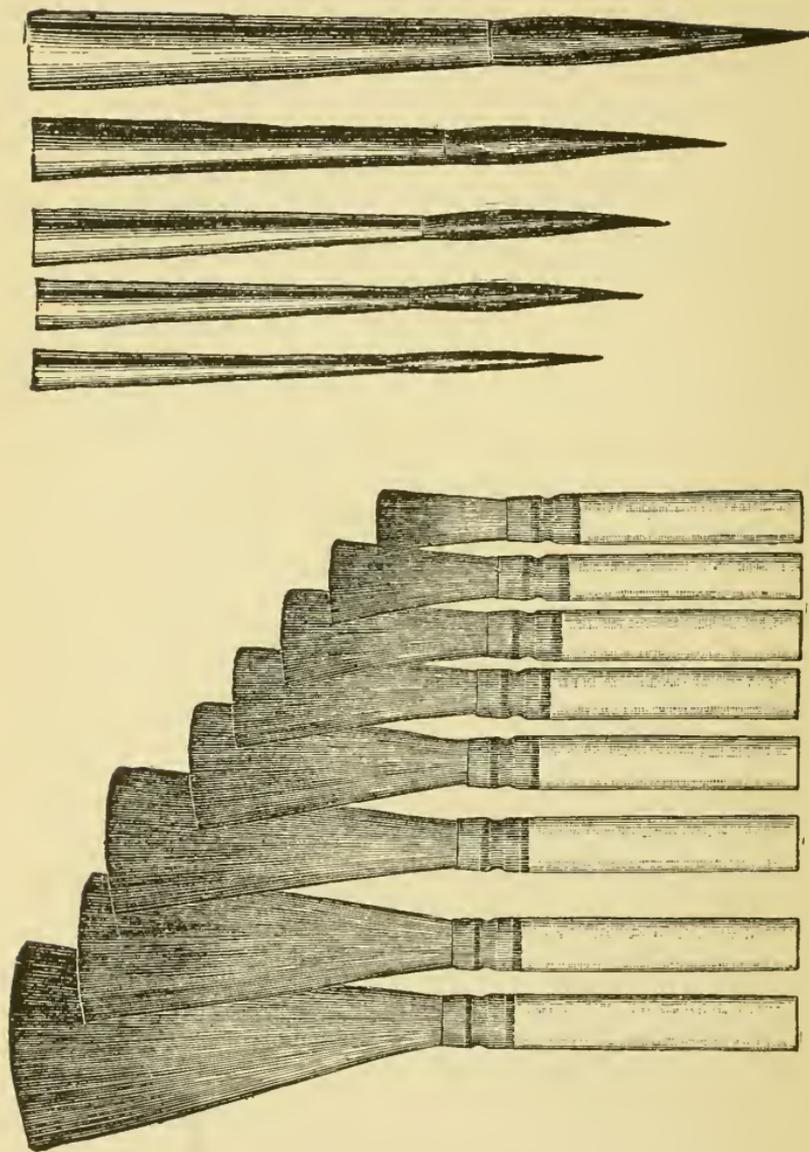
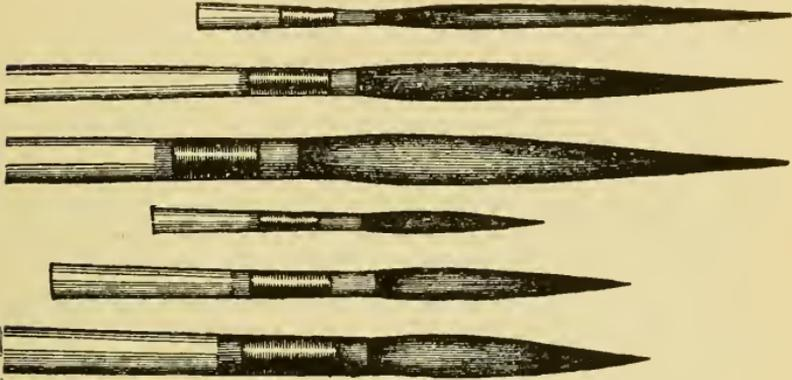

Fig. 36—Lettering.
Fig. 37—Striping Pencils.
trate all other makes as shapes and bindings are about the same. See Fig. 36 for lettering and Fig. 37 for striping brushes, and Fig. 38 for metal bound handled.
c. Sign writers' quilled and ferruled letterers are the same in size and shapes as shown in Fig. 36.
d. Striping brushes of this material are indispensable for use in heavy colors. See Fig. 37 for shape and sizes.